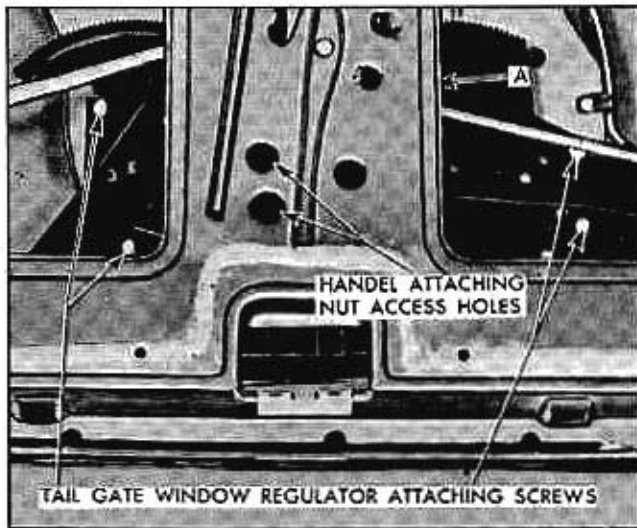

Fig. 4-16 Window Regulator—Removal
2. To correct a condition where the glass is "cocked" in the glass run channels, loosen window regulator attaching screws (Fig. 4-16), rotate regulator assembly clockwise or counterclockwise, as required, to eliminate cocked condition.
2. Detach tail gate lock remote control right connecting rod from remote control at "A" (Fig. 4-16).
4. Remove regulator attaching screws at locations shown in Fig. 4-16. Remove regulator assembly through large access hole.
2. Detach tail gate inner panel water deflector sufficiently to gain access to access holes, shown in Fig. 4-16, for removal of handle attaching nuts.
3. Carefully raise window until holes in window regulator are aligned with inner panel access holes, (Fig. 4-16), for removal and installation of outside handle attaching nuts.
CAUTION: Support portion of window assembly extending out of tail gate (Fig. 4-16).
4. Through access holes, shown in Fig. 4-16, remove tail gate handle attaching nuts and remove handle assembly and gasket from tail gate. To assemble tail gate handle assembly, see TAIL GATE HANDLE ASSEMBLY – DISASSEMBLY AND ASSEMBLY.
panel access holes, shown in Fig. 4-16, for removal and installation of attaching nuts.
4. Through access holes, shown in Fig. 4-16, remove lock cylinder, switch and escutcheon assembly attaching nuts. Detach assembly from tail gate outer panel sufficiently to disconnect junction block from switch; then, remove assembly and gasket from tail gate.